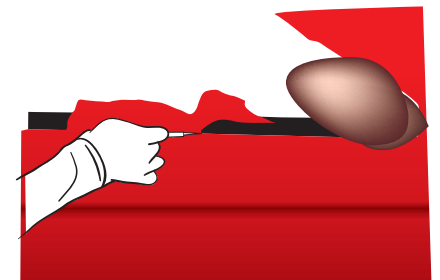

Figure 33
- › For the cut, the blade must be placed in a flat position, between the body and the joint, and perpendicular to the joint. When cutting, have the blade run carefully along in the same direction. (FIG. 33)